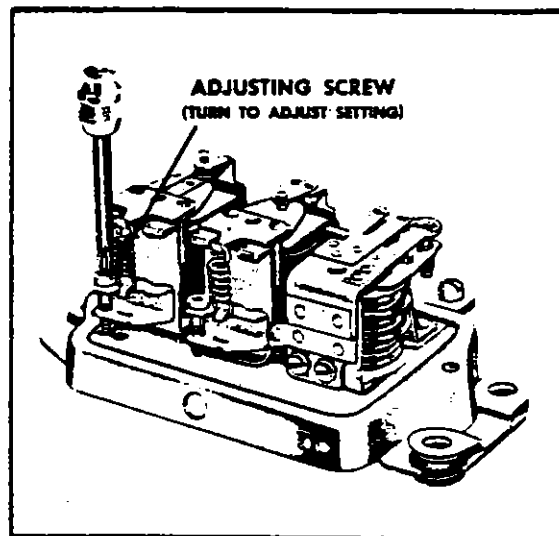

Figure 11-9. Adjusting Voltage Regulator Setting
(h) To adjust voltage setting, turn adjusting screw. (Refer to Figure 11-9.) Turn clockwise to increase setting and counterclockwise to decrease setting.
- (e) Adjust in same manner as described for voltage regulator. (Refer to Figure 11-9.)
- (e) Adjust in same manner as described for the voltage regulator. (Refer to Figure 11-9.)